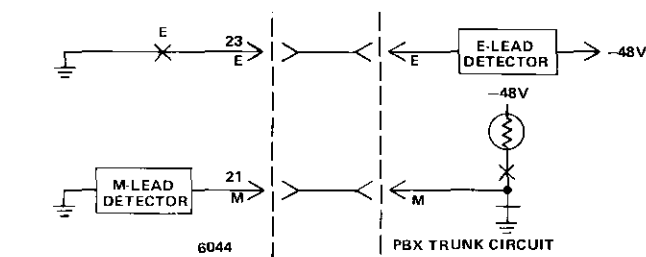

figure 3. Type I E&M interface
1.07 The 6044 can be switch optioned for DX1 or DX2 operation. With DX1 operation, M-lead signals are input to and E-lead signals are output from the module. With DX2, E-lead signals are input to and M-lead signals are output from the module. Either Type I, II, or III E&M lead interfacing (see figures 3 through 5 in section 2 of this Practice) can also be switch selected. Please note that while the Type I and II interfaces can be used with either DX1 or DX2 operation, the Type III interface can **only** be used with DX1.
2.07 The 6044 operates in either the DX1 mode (M-lead input, E-lead output) or the DX2 mode (E-lead input, M-lead output). The DX2 mode is generally used in tandem applications of DX sets, in applications where the 6044 interfaces carrier or other signaling sets, or in other applications where a terminal-side E&M interface must be provided. Both DX1 and DX2 operation eliminate the need for a pulse-link repeater in applications where the 6044 interfaces carrier or in tandem DX-set applications. Type I, II, or III E&M-lead interfacing can be switch-selected (see figures 3 through 5). The Type I and II interfaces can be used with either DX1 or DX2 operation; the Type III interface is **only** used with DX1. In general, Type I is used with electromechanical switching systems while Type II and III are used in electronic switching environments.